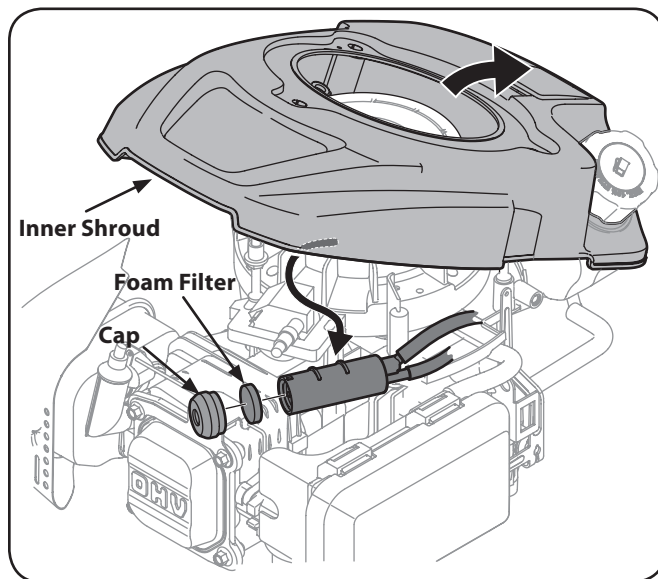

Figure 6-4
2. Lift up inner engine shroud and carefully pull out carbon canister filter assembly from under shroud as shown in Figure 6-4.
3. Remove cap from end of canister and pull out round foam filter from inside the assembly. See Figure 6-4. Clean element or replace when damaged.